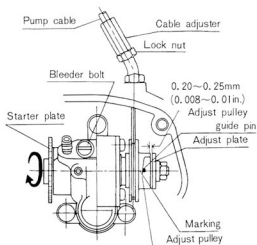

Fig. 2-3-4
a. Slowly open the accelerator grip when the slack of the throttle cable A is removed (in this case, the accelerator grip feels tight), adjust the pump cable so that the marking on the pump adjusting pulley is aligned with the adjusting pulley guide pin. (See Fig. 2-3-4.)